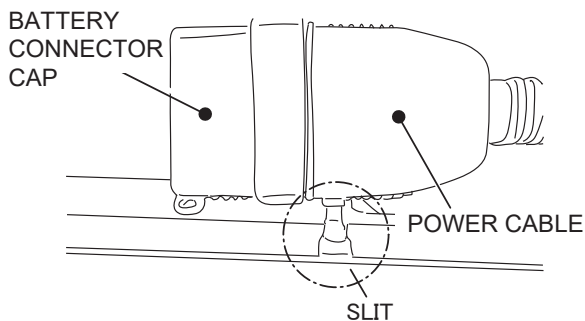

Figure 7. Battery Connector
5. Remove the battery connector cap from the power cable (Figure 7).